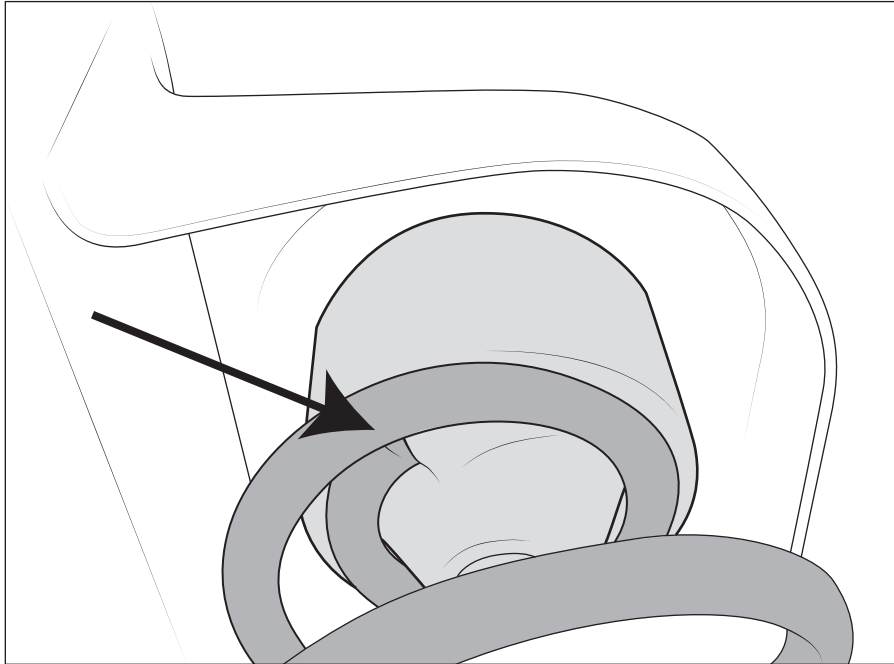

*Figure 4*
6. Remove the lower bolts from the shocks and sway bar end links **SAVE HARDWARE** (fig. 4).